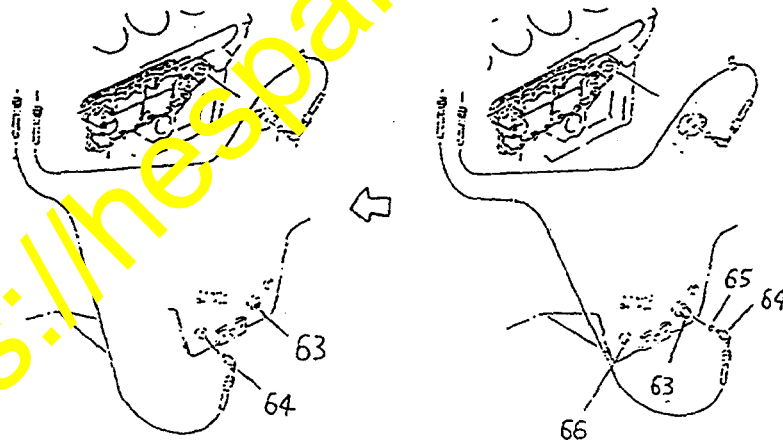

Fig. 52
- ⑲ Common returning point of by-pass filter oil on HD785-3 (Fig. 52)